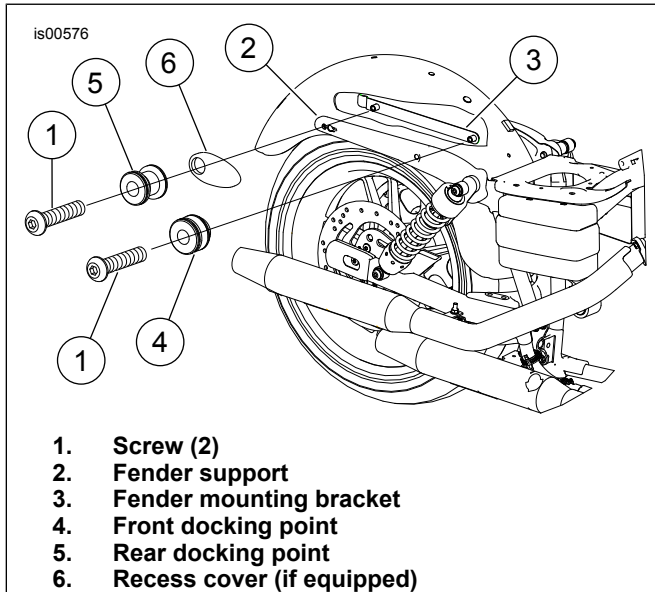

Figure 1. Models with Detachable Accessories
For 2006-2008 FXDWG and all FXDF models: Stock fender mounting bracket (Figure 1, item 2) can be reused or discarded and replaced with a new fender mounting bracket from the kit.
2. See Figure 1. Work on one side of the vehicle at a time. Remove two fender mounting screws (1) and fender mounting bracket (3). Discard screws.
3. Remove front docking point (4) and rear docking point (5). Save for later use.